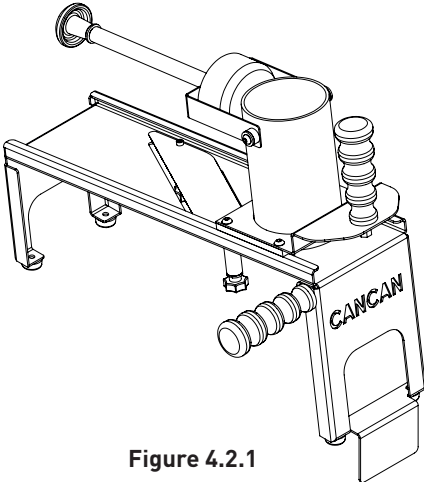

Figure 4.2.1
- Pull the Chamber Handle all the way up and tilt it forward. **(Figure 4.2.1)**